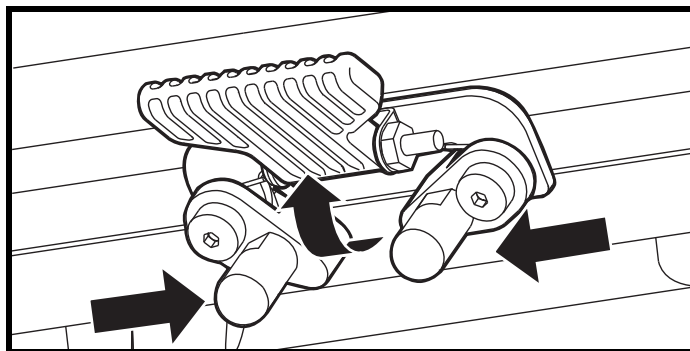

Figure 15. Seat Height Adjustment - Seat Latch Safety
5. Flip up the seat latch safety. **See figure 15.**
6. Squeeze the seat latch and release the seat from the front trapeze bar. **See figure 15.**